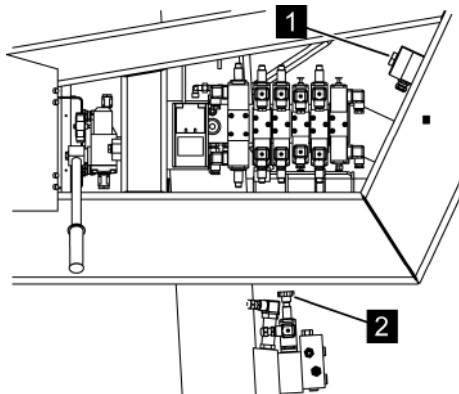
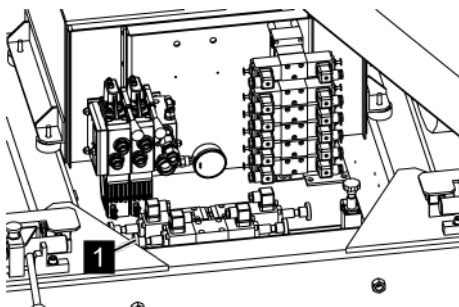

Fig. 129: Proportional valve
Fig. 130: Shuttle valve
4. ➤ In order to be able to use the function [Lower telescopic arm], lock the proportional valve (Fig. 129/2).
5. ➤ Hold the button (Fig. 129/1) for service operation down during operation.
6. ➤ For platform operation, press in the shuttle valve (Fig. 130/1) and lock with a slight turn clockwise.
After service operation, unlock the shuttle valves (Fig. 130/1) and the proportional valve (Fig. 129/1).
- Make sure that for normal operation, the shuttle valve (Fig. 130/1) and the proportional valve (Fig. 129/1) are completely unlocked.